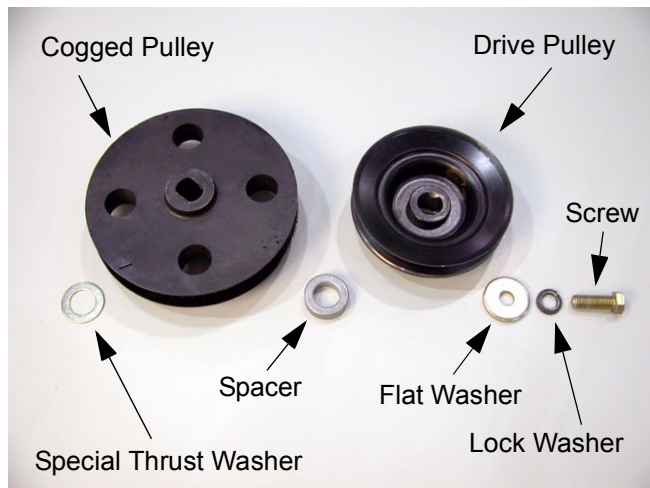

Figure 48
**NOTE:** There will be a spacer between the drive pulley and the cogged pulley assembly. See Figure 48.